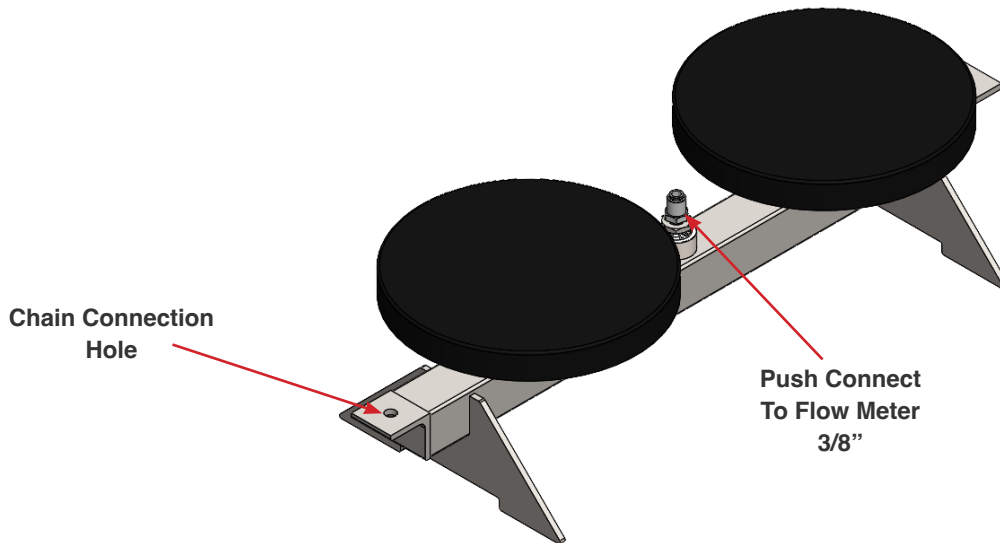

Fig. 3.3.2 - 1 - Micro bubbler connection locations
1. Attach chain, or rope, to the holes on each end of the bubbler frame (Fig. 3.3.2 - 1, following page).